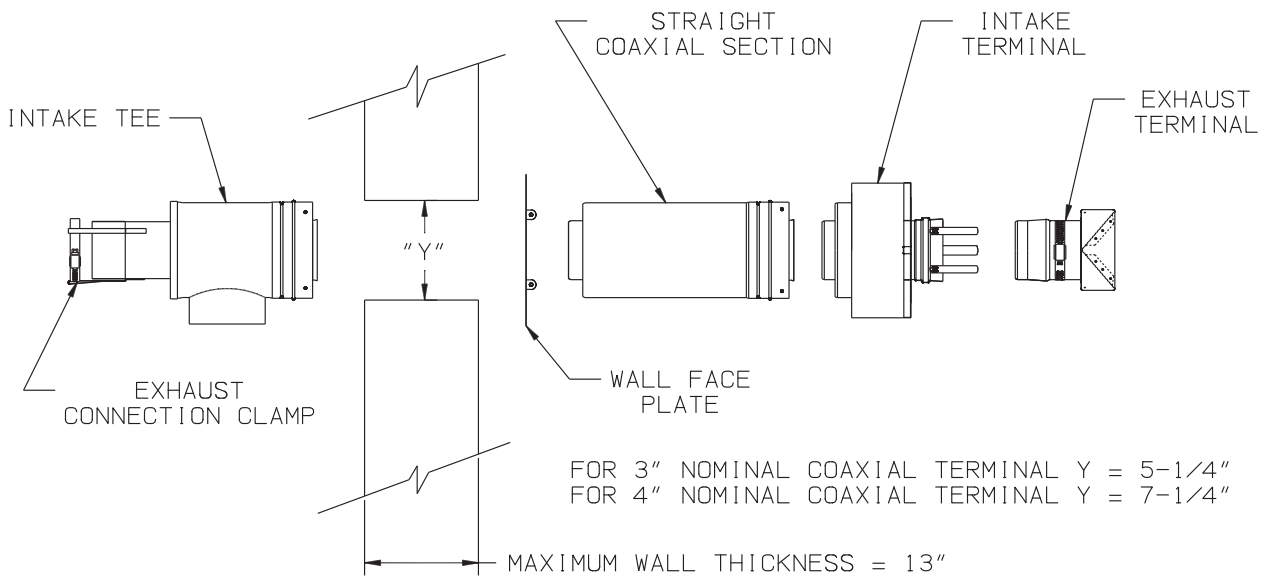

FIGURE 18a: CROWN COAXIAL TERMINAL EXPLODED VIEW
- 3) Optional Coaxial Terminal Installation – If the optional coaxial terminal is used, it should be installed in the wall before vent assembly is started. Install the terminal in accordance with the following procedure (Figures 18a & 18b):